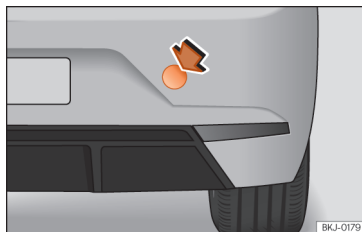

Fig. 156 Rear bumper on right: remove the lid.
The housing of the screw towing eye is on the right side of the rear bumper behind a lid >>> **Fig. 156**.
- Press the top right hand side of the cover >>> **Fig. 156** to unclip it.